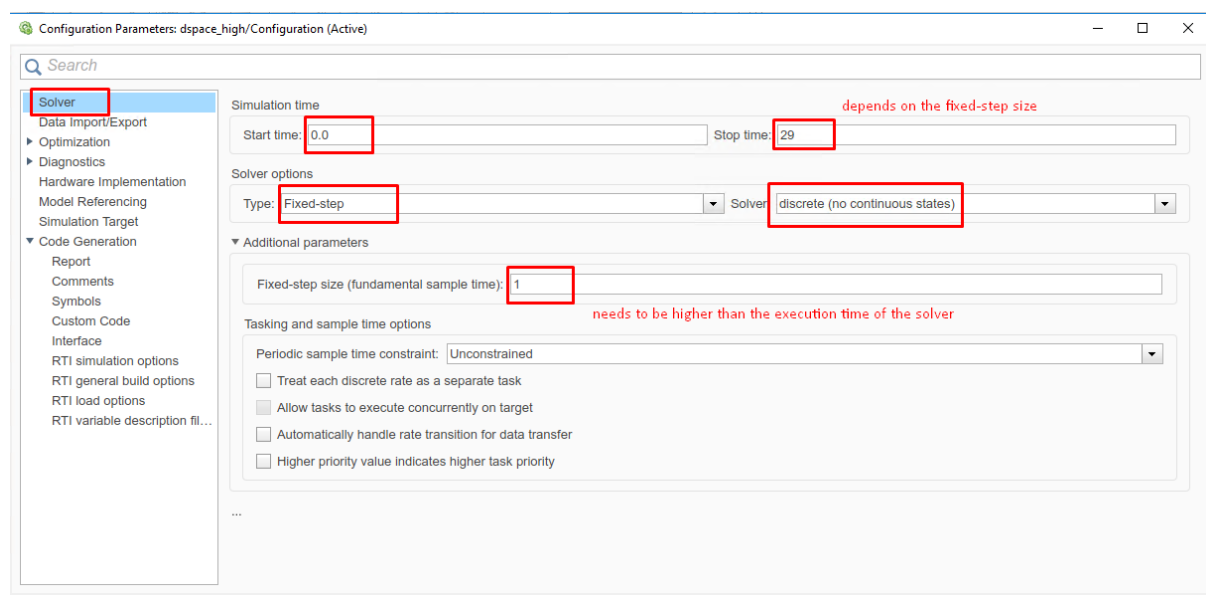

Figure 13.8: Set the Simulink solver options.
8. (Figure 13.8) In the “Solver” tab, set the options: